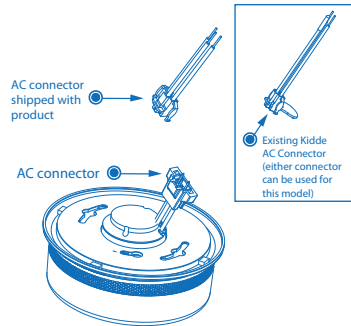

Figure 9-B
- Figure 9-A illustrates interconnection wiring. Improper connection will result in damage to the alarm, failure to operate, or a shock hazard.